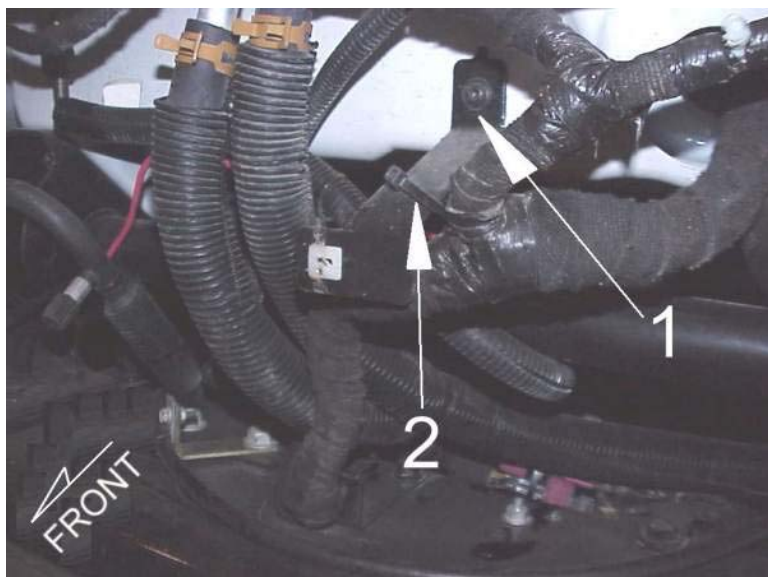

Figure 1 Remove Tie Strap from Bracket
2. Remove cable strap lock securing the IP harness to grille mounting bracket (Figure 1).